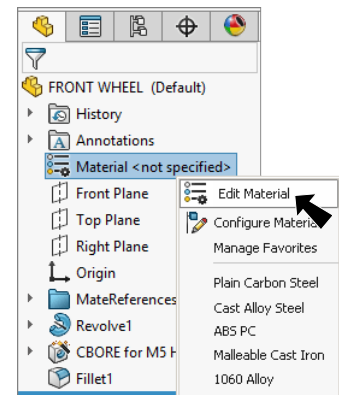

Fig. 14
Step 1. Right click Material  in the Feature Manager and click **Edit Material**, Fig. 14.